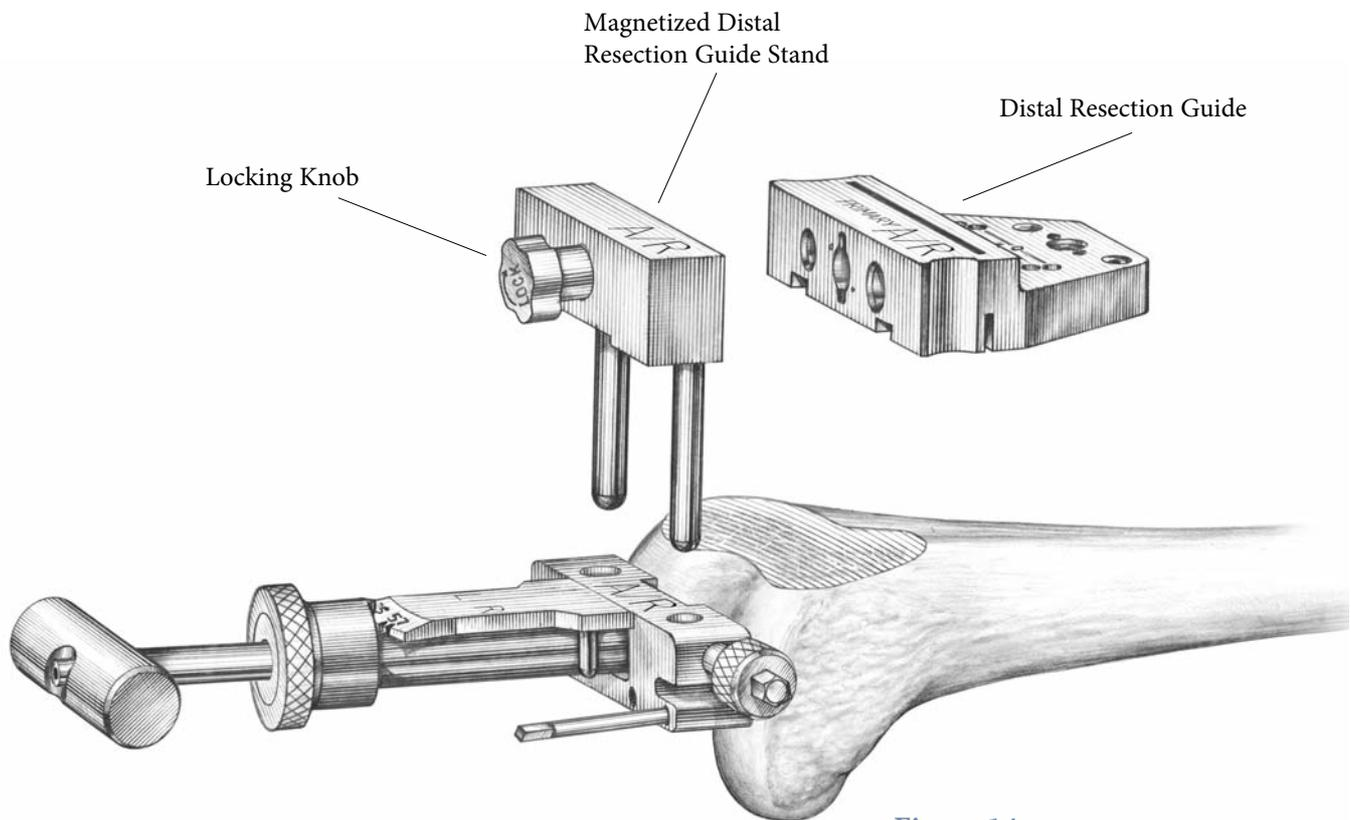

Figure 14
- ▶ Assemble the 8mm Distal Resection Guide to the Distal Resection Guide Stand by placing the Guide over the pegs. These guides are magnetized to assure correct assembly. The resection guide may then be locked into place by pushing in and turning the locking knob 1/4 turn clockwise (**Figure 14**).